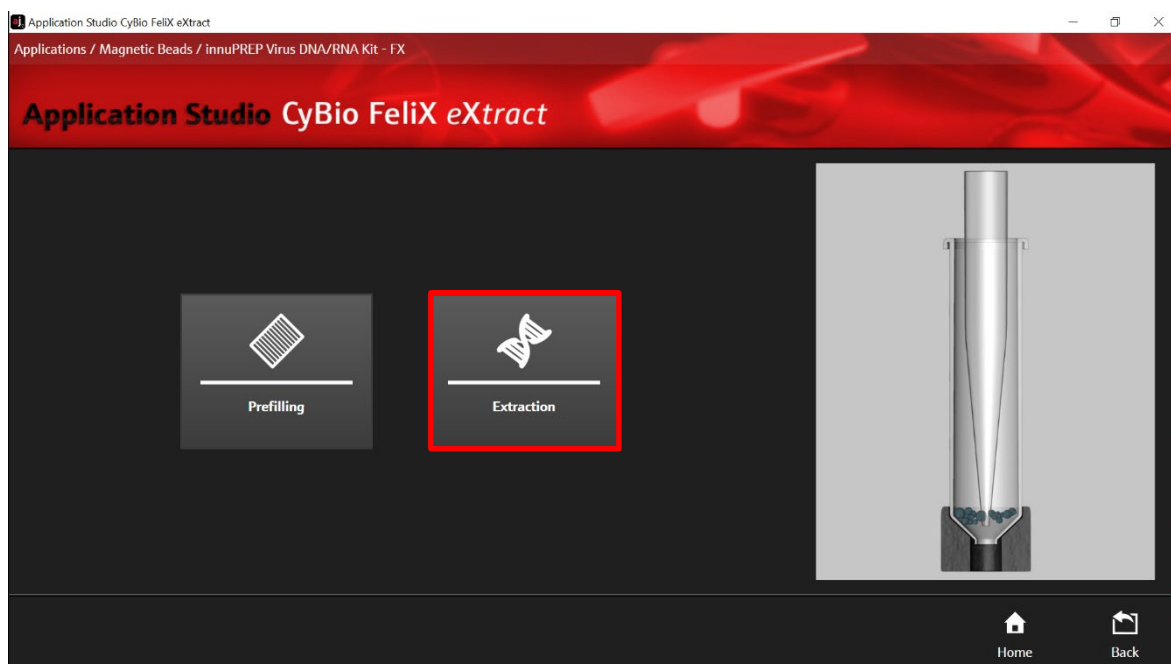

Figure 14: Routine selection in the AppStudio FeliX eXtract: Extraction.
5. Select "Extraction" (→ see Figure 14).